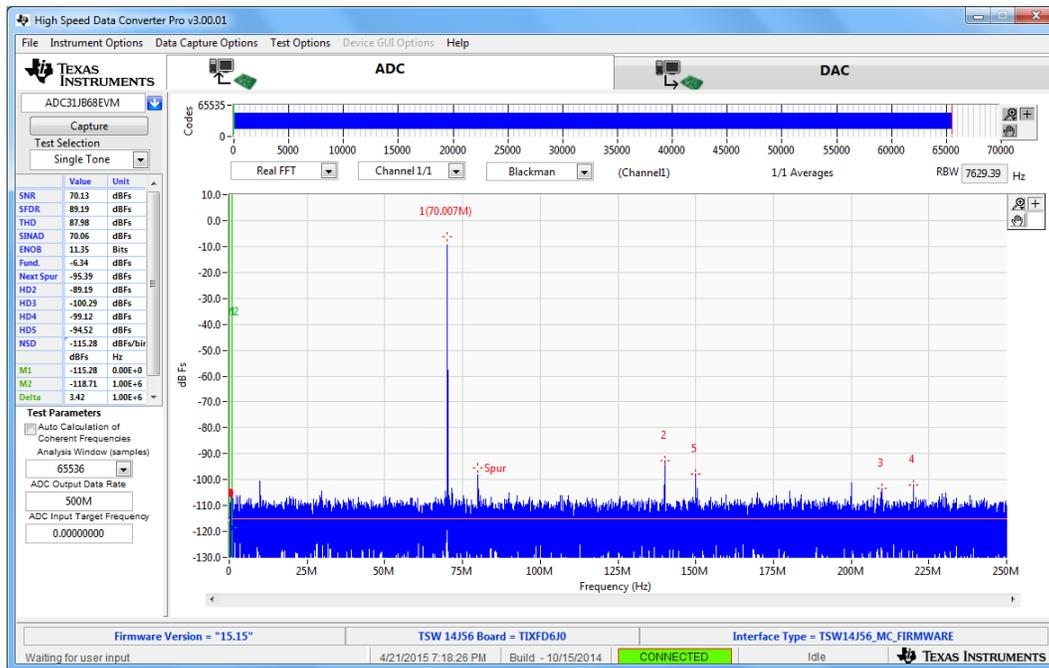

Figure 4. Data Capture Results From Quick Start Procedure
- The results from the captured data of Channel 1 should resemble Figure 4 and the performance should be similar to Table 1. If this result is not achieved, then see the Quick Start Trouble Shooting section of this document.